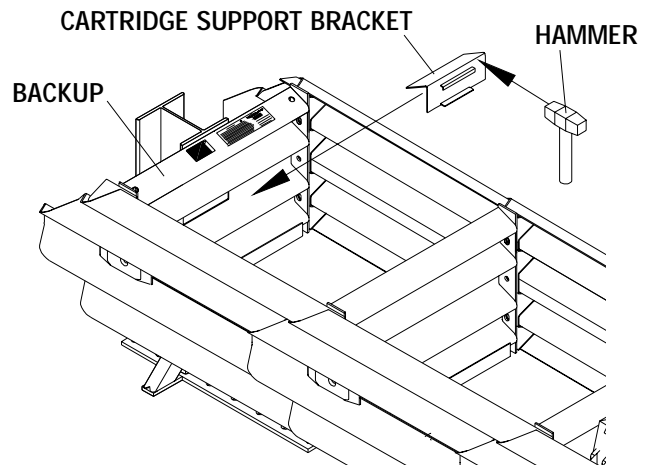

Figure 52
- C. Then, using a sledge hammer and Quad-Beam™ shape on backup as an anvil, form cartridge support bracket back into 90° shape (see figure 52).